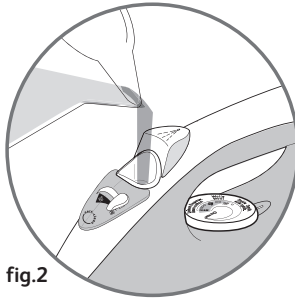

fig.2
- Place the iron flat and fill it (fig.2) .